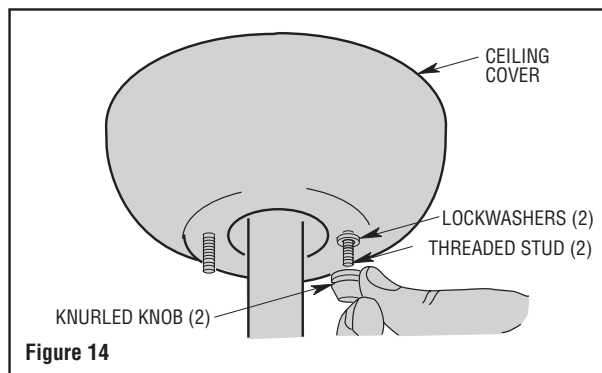

Figure 14
4. Lift the ceiling cover up to the threaded studs and turn until studs protrude through the holes in the ceiling cover (Figure 14).
5. Secure the ceiling cover in place by sliding lockwashers over the threaded studs and installing the two knurled knobs (supplied). (Figure 14.) Tighten the knurled knobs securely until the ceiling cover fits snugly against the ceiling and the hole in the ceiling cover is clear of the downrod. Your fan is now wired to be turned on and off from the fan switch.